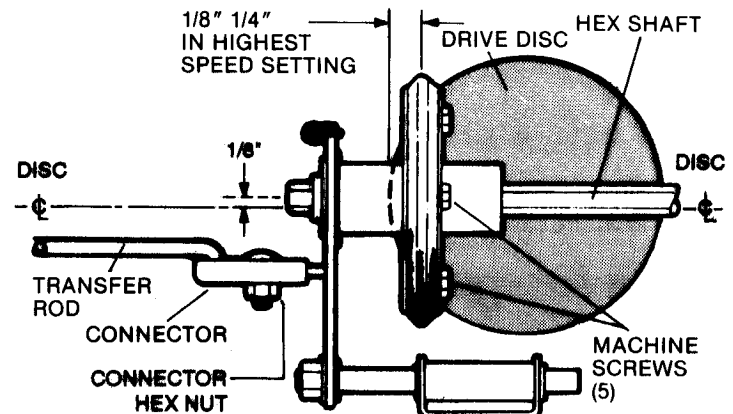

FIGURE 2.12
- The **CENTER** of the rubber ring should be 1/8" to 1/4" from the **left EDGE** of drive disc as shown. See Figure 2.12.
2. Check the "**TRACKING POINT**". The rubber ring should contact the drive disc's surface at a point 1/8" **in front of** an imaginary reference centerline crossing through the center of the drive disc. You may wish to draw the centerline with a pencil. See Figure 2.12.